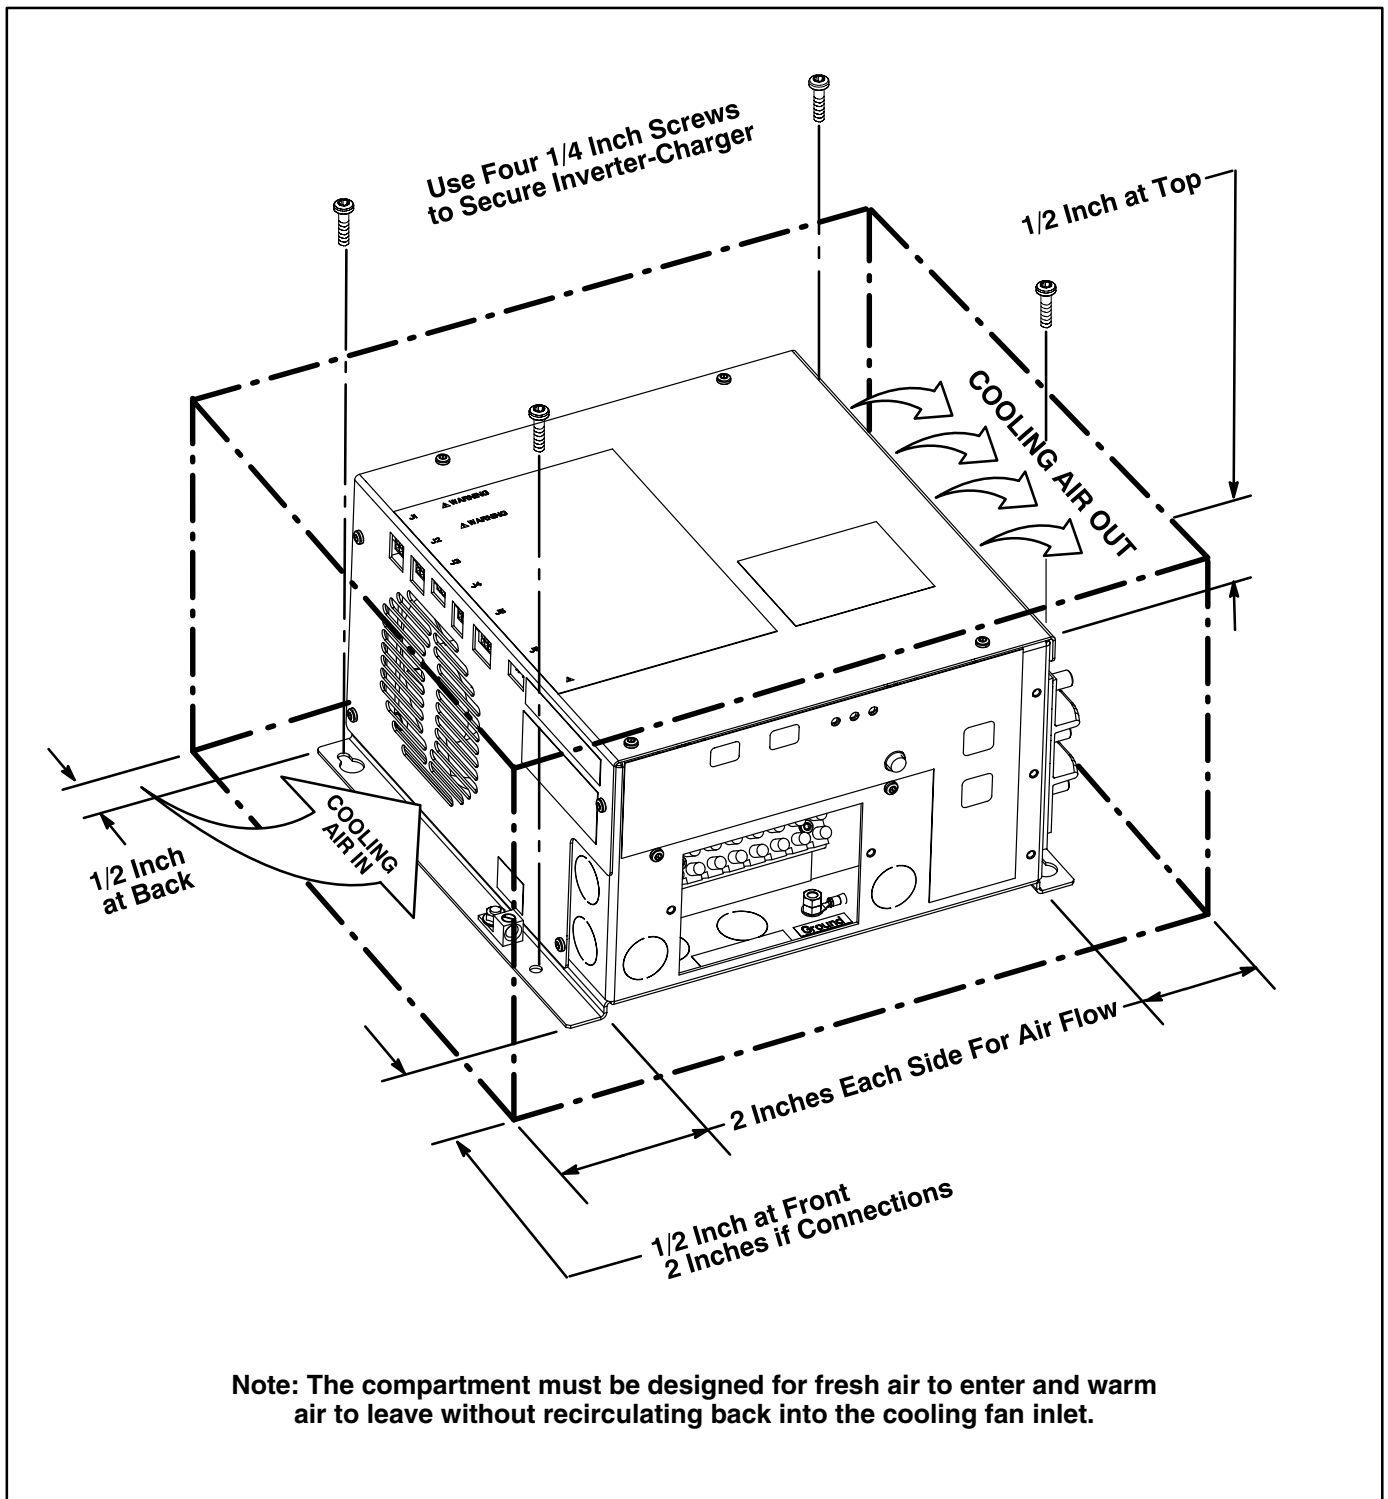

FIGURE 6-1. MOUNTING, MINIMUM COMPARTMENT CLEARANCES AND COOLING AIR FLOW
- Allow for free air flow through the space or compartment. See Figure 6-1. The Inverter-Charger has an internal cooling fan. Cooling air flow is from left to right through the Inverter-Charger. *The compartment must be designed for fresh air to enter and warm air to leave without recirculating back into the cooling fan inlet.*
Provide at least 2 inches (50.8 mm) of clearance to the right and left sides for good cooling air flow and wiring connections, and 1/2 inch (12.7 mm) to front, back and top. If the Inverter-Charger has circuit breakers, or AC wiring is brought in through the front, provide at least 2 inches (50.8 mm) of clearance to the front panel. See Table 6-3 and Figure 6-1.